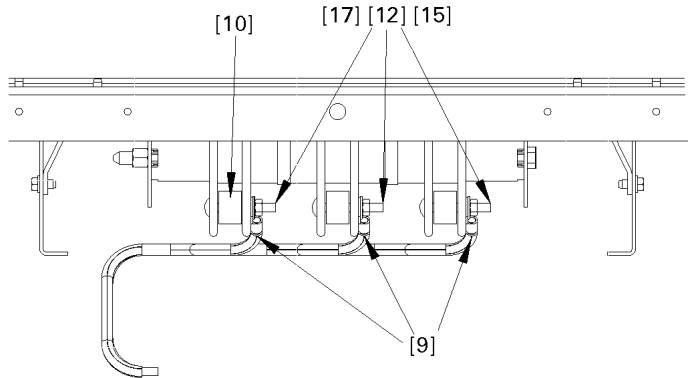

Figure 5. Plug-in assemblies with .281-inch square holes.
- *Plug-in assemblies, switchboard panels, and panelboards with .281-inch square holes available (double bus).* For each phase, slide a spacer [10] between the vertical bus bars and install a 1/4-20 x 2" carriage bolt [17] into a .281-inch square hole located towards the front of the interior vertical bus, as shown in Figure 5. Use the uppermost holes in the 7X (9⁵/₈") space that the TVSS unit can reach.